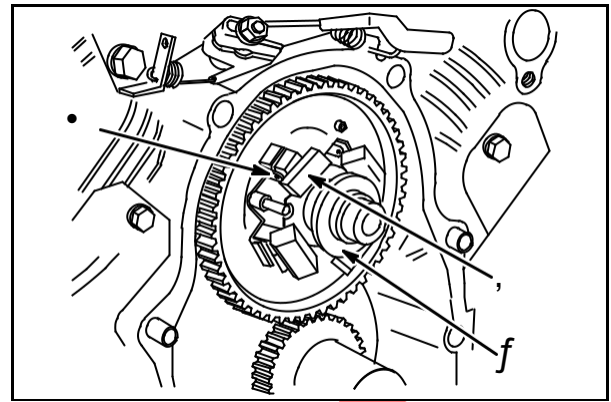

Fig. 7
Governor spool (3) must move freely on PTO journal of camshaft, **Fig. 7**. Replace if spool sticks or bearing is damaged.